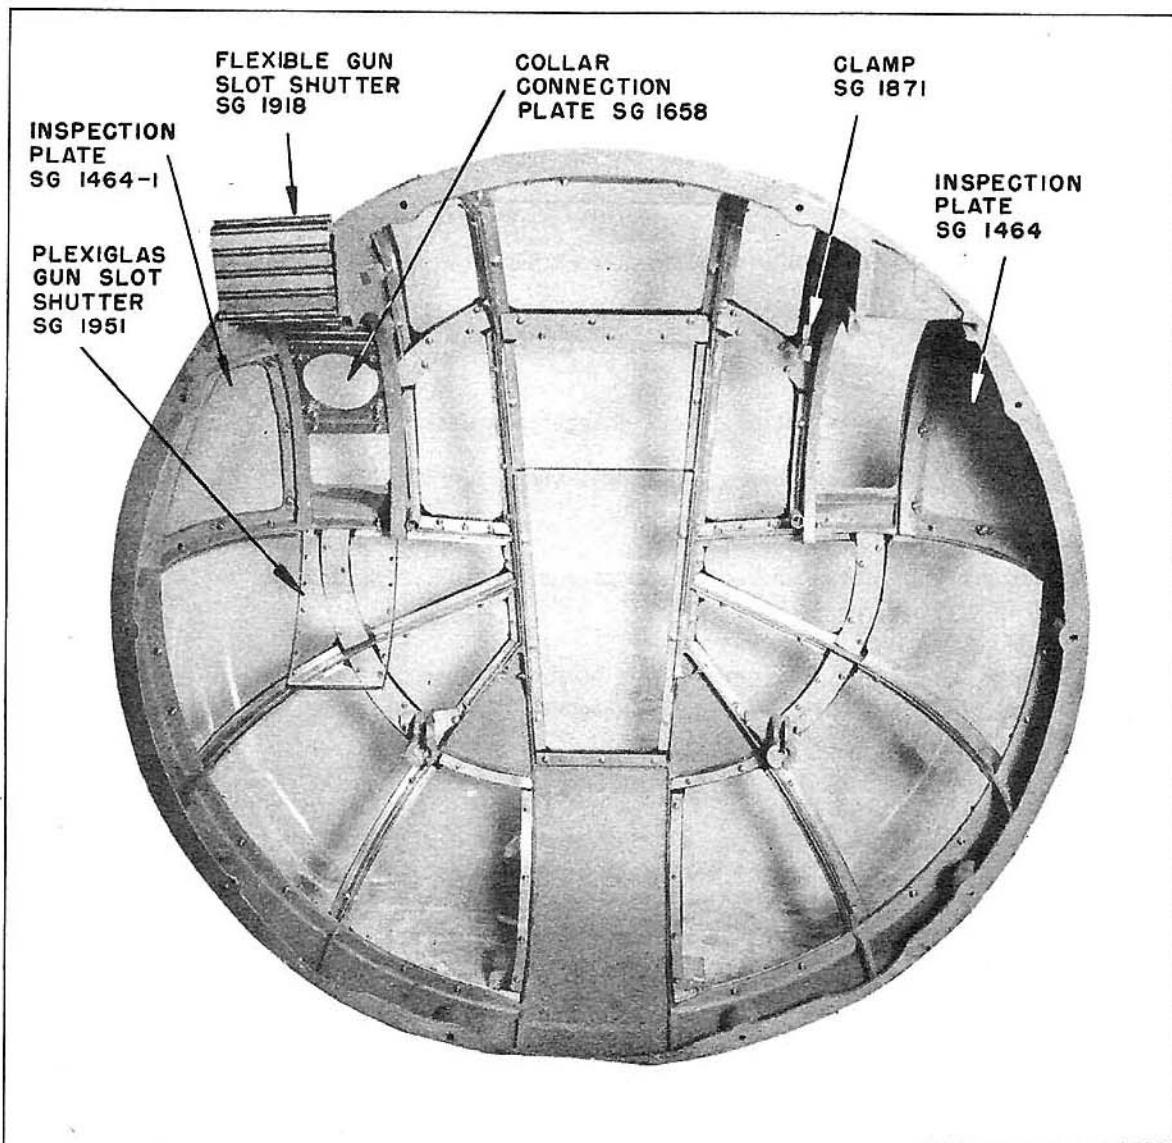

FIGURE 2
8. Dome. - a. Attach collar connection plates (SG 1658, see Figures 2 and 3) to plexiglas gun shutter SG 1951, using 2 (10-32, 3/8" lg.) washer head screws. (Part numbers preceded by SG are numbers assigned by Steel Products Engineering Co., Springfield, Ohio.)
d. To make plexiglas shutter accessible, remove inspection plates by taking out the 7 screws (8-36, 3/4"). (See Figure 2.) These inspection plates should not be replaced until the guns have been raised from 0° to 85° so that clearances between gun yoke and dome can be checked. There should be sufficient room allowed for free movement of the gun yoke.
(1) Replace the inspection plates and recheck for proper clearance by operating the guns by hand.
e. Insert azimuth and elevation flexible shafts to sight and sight electrical conduit in clamp (SG 1871) which is held to left side of the dome by one of the moulding screws. (See Figure 2.)
(1) Thread charging cable over pulley in charging handle bracket (SG 979).
(2) Then over idler pulley (SG 942).
(3) Then over anchor pulley in gun yoke.
(4) Then over large pulley in gun charger plate.